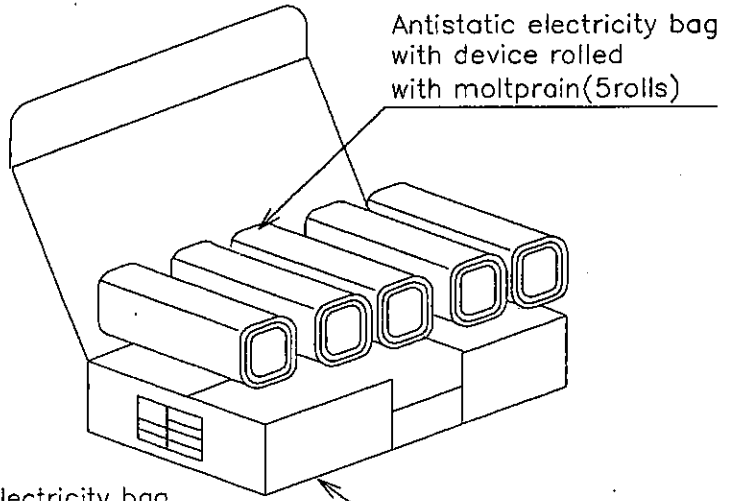
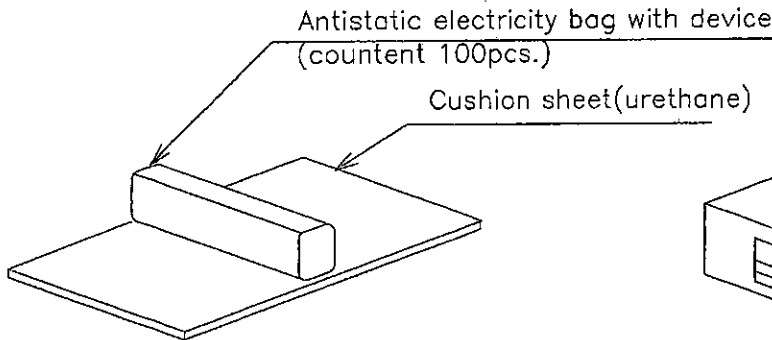

Fig.3
Fig.2
- A pack (item1) should be wrapped by cushion sheet (urethane). And five packs should contain in one box. (Fig. 2, Fig. 3)